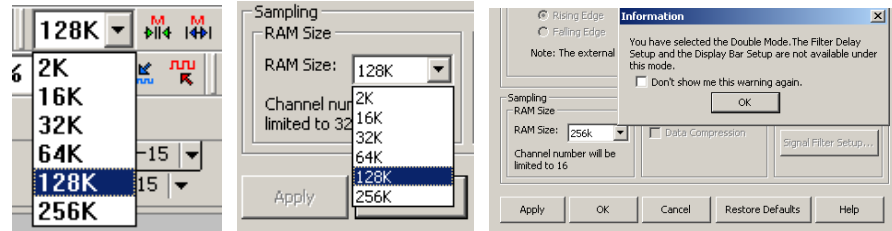

Fig 4-3 – RAM Size
Click on the RAM Size  from the pull-down menu on the Sampling Setup dialog box as shown in Fig 4-3.
**2:** The relationship between RAM Size, Signal Filter Mode, Compression Mode and Channels as shown in Table 4-1 and Fig 4-3.